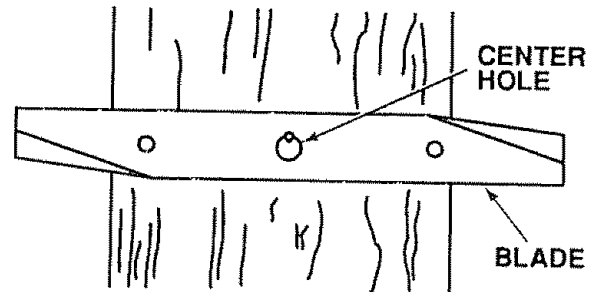

FIGURE 13
- c. To check blade balance, drive a nail into a beam or wall. Leave about one inch (2.54 cm) of the straight nail exposed. Place center hole of clean blade over the head of the nail (Fig. 13). NOTE: CENTER THE HOLE OF BLADE ON NAIL. IF BLADE IS PROPERLY BALANCED, BLADE SHOULD REMAIN IN POSITION SHOWN IN FIG. 13. IF EITHER END OF THE BLADE MOVES DOWNWARD, BLADE IS NOT BALANCED. SHARPEN THE HEAVY END UNTIL BLADE IS BALANCED.